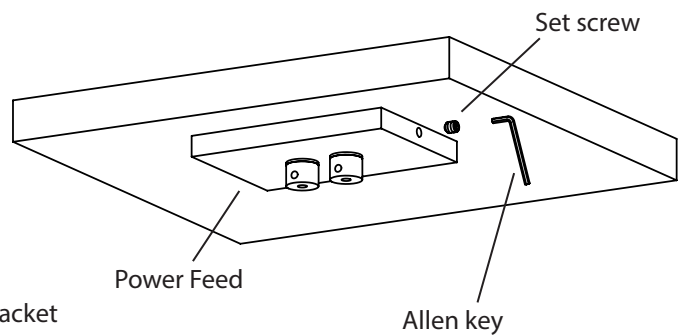

Fig. 6
16. Attach **Power Feed** to mounting bracket. Secure using **set screw** and included **Allen key**. (Fig. 6)